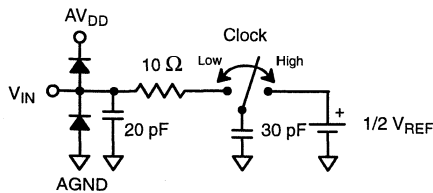

Figure 5. Analog Input Equivalent Circuit
- 4 See V_{IN} input equivalent circuit (*Figure 5*). Switched capacitor analog input requires driver with low output resistance.